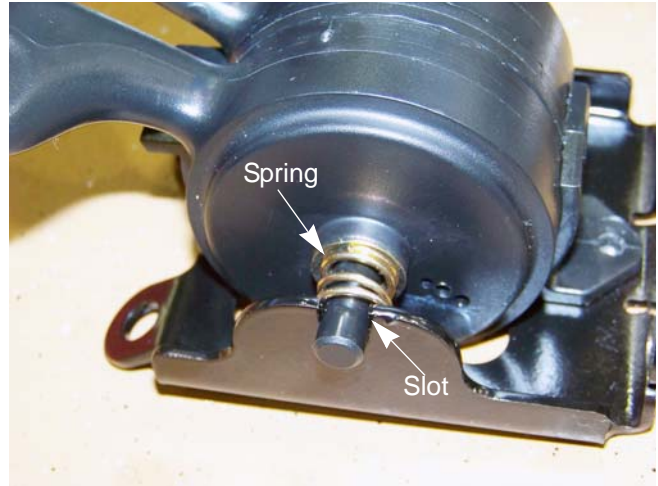

Figure 2.18
6. On the side of the lever assembly that has the slot, lift the shaft that the levers pivot on enough to slide the spring off. See Figure 2.18.